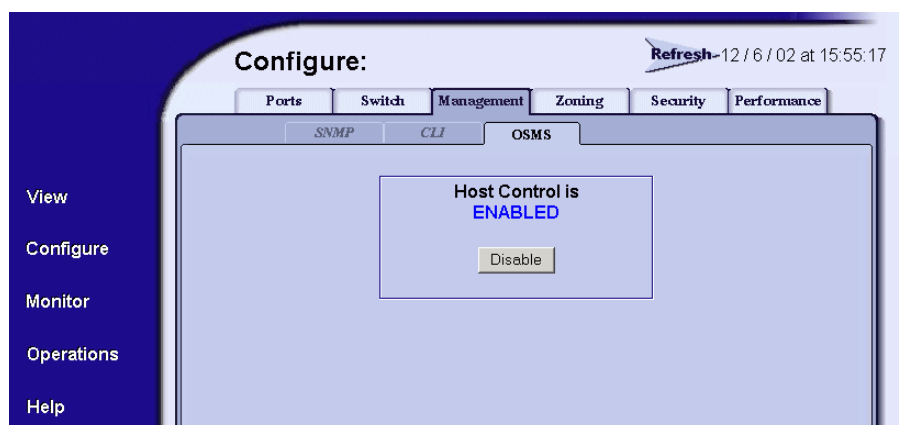

Figure 13: Enabling OSMS host control
2. Choose the **Management** tab and the **OSMS** tab. The **OSMS** tab view displays (Figure 13).